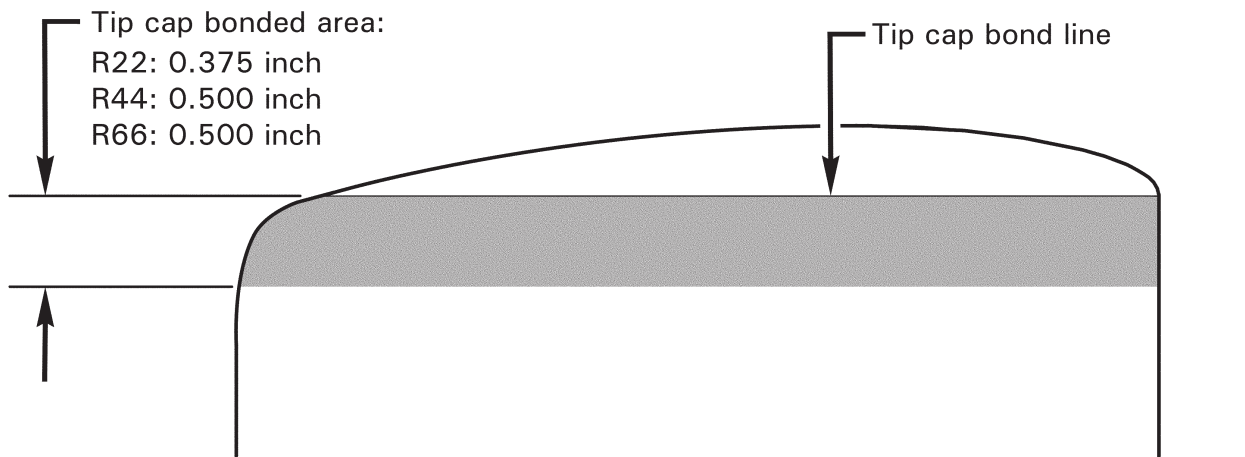

FIGURE 3
5. At each 100-hour inspection, tap test tip cap bonded area shown in Figure 3 to verify bond integrity. Reference tap test instructional video at: https://robinsonheli.com/wp-content/uploads/2021/06/taptest_05_apr_2010.mp4